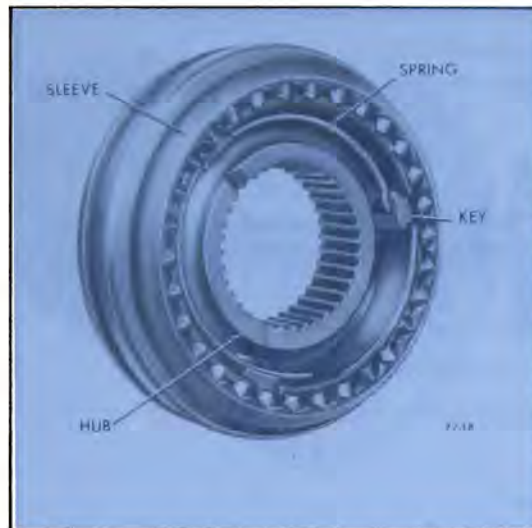

Figure 72-18—Synchronizer Assembly
b. Remove sliding sleeve from synchronizer hub. Remove keys and springs from the hub. See Figure 72-18.
c. Place the three (3) keys and two springs in position (one on each side of hub) so all three (3) keys are engaged by both springs. See Figure 72-18.